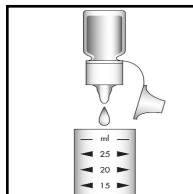

Figure 1
2. Add **3 drops** of A-9500 Activator Solution (fig 1). Stir briefly to mix the contents of the cup.